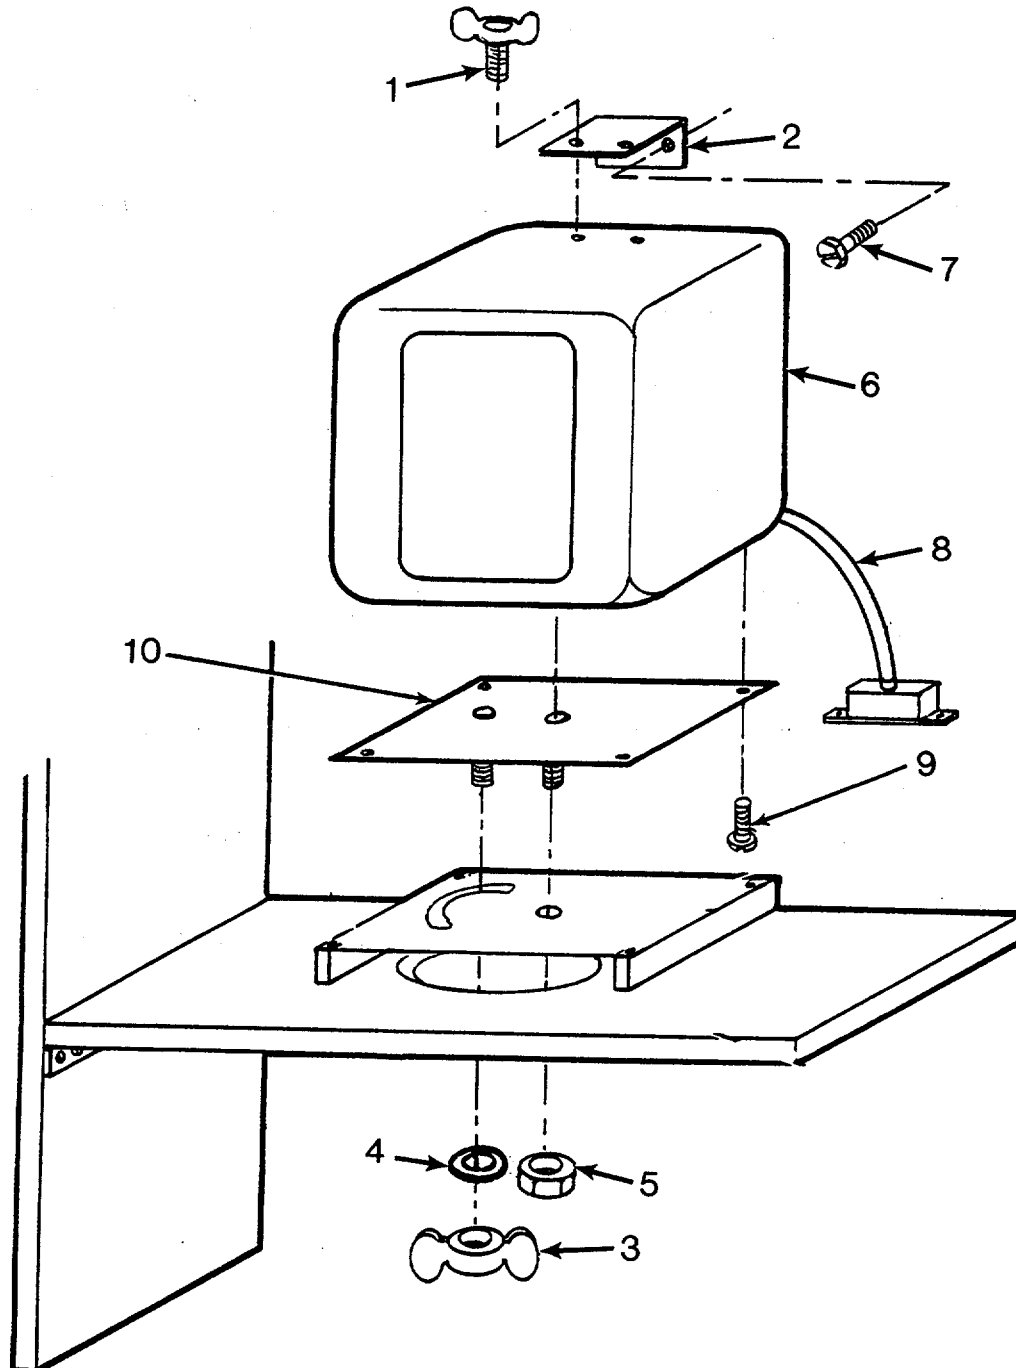

Figure 4-34. Monitor Assembly Mounting
4-29. **PHOTOTYPESETTER ASSEMBLY.** - Continuedd. **Replace Monitor Assembly.** (See Figure 4-34.)
d. Replace Monitor Assembly. (See Figure 4-34.) - Continued